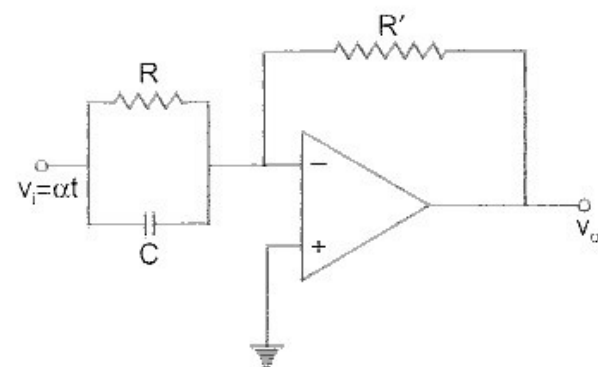

Fig. P. 4.8
4.8. In the circuit shown in Fig. P. 4.8, input is a sweep voltage  $v_i = \alpha t$ . Show that the output